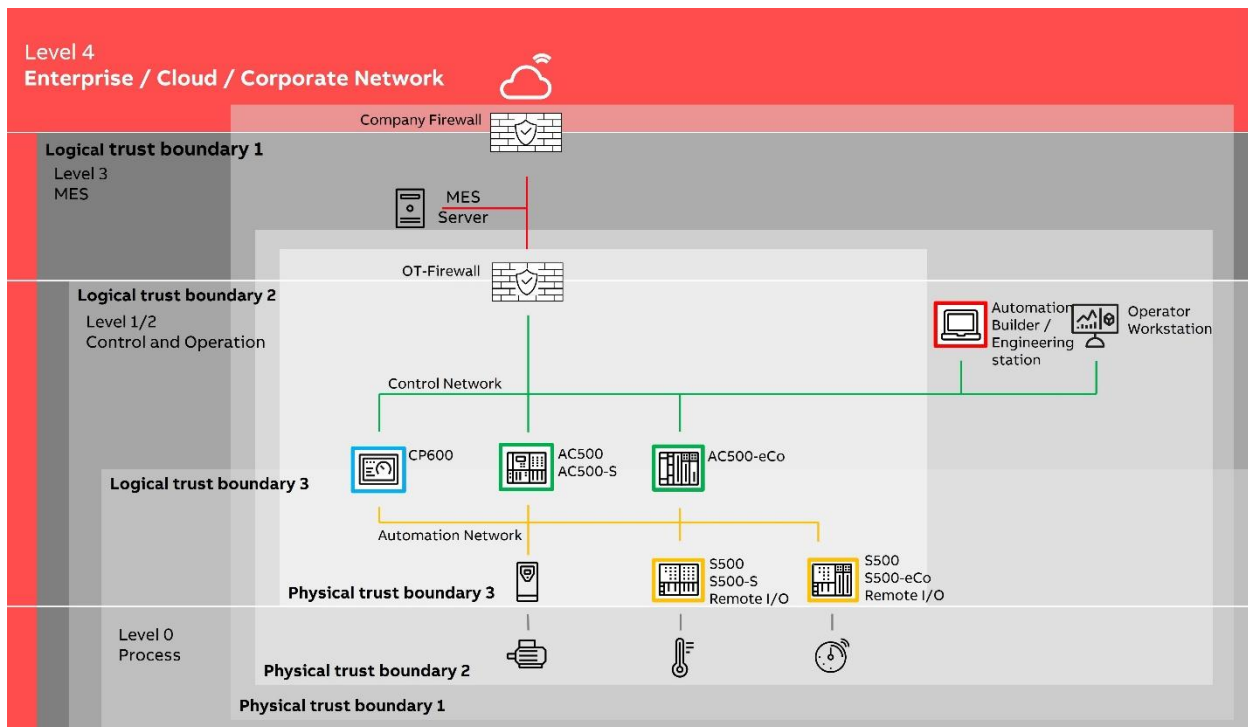

Figure 2 - Cyber Security Reference Architecture diagram for an automation system
The cyber security reference architecture defines the security context of the AC500 PLC and CP600 platform products and enables system integration in conjunction with a defense in depth approach. Figure 2 shows the reference architecture.
- Isolation – physical and logical trust boundaries as shown in Figure 2.